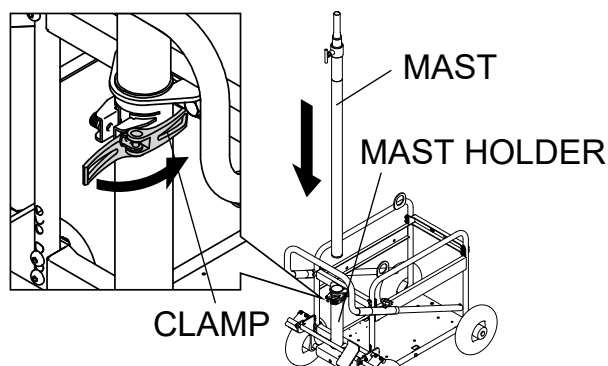

Figure 7. Mast Installation
1. Insert the mast into the mast holder (Figure 7).